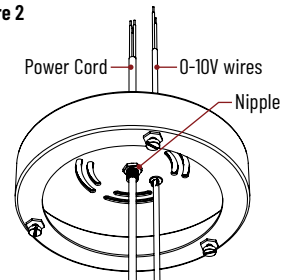

Figure 3
4. Make electrical connections inside junction box (not included). (Figure 3)